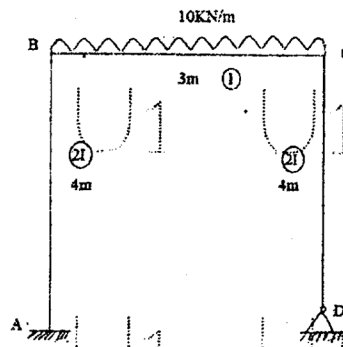

Figure: 6
8. Analyse the portal frame loaded as shown in the Figure 6 and Draw the BMD. The frame is fixed at 'A' and hinged at 'D'. Adopt Moment distribution Method. [10]